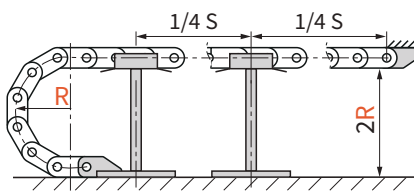

Figure 2
2. Add two supports (shown in Figure 2), can extend the unsupported length by 100%;